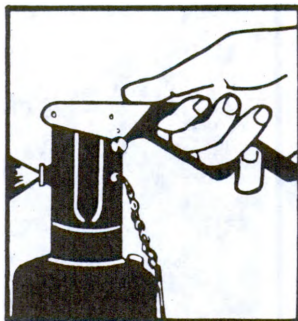

Figure 3
- c. Pull up on the charging handle, point the apparatus at the object to be decontaminated, hold it 6 to 8 inches away, and depress the thumb lever (fig. 3).